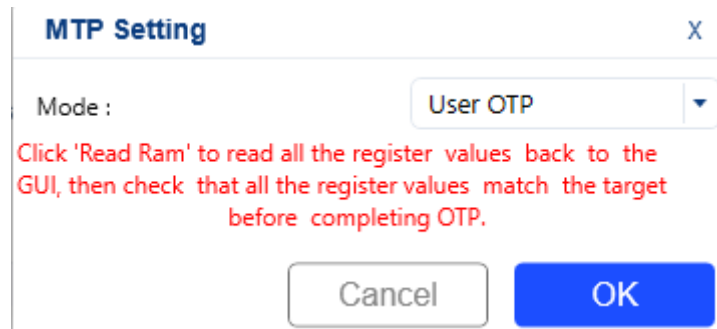

Figure 6: Select the OTP Type
- From this point, the user can change any register value. Read back the values once to ensure that all registers have been changed as expected, then click “ Write RAM” (see Figure 6).
- Click “ Write ROM” and select “User OTP,” then click “OK” (see Figure 6).